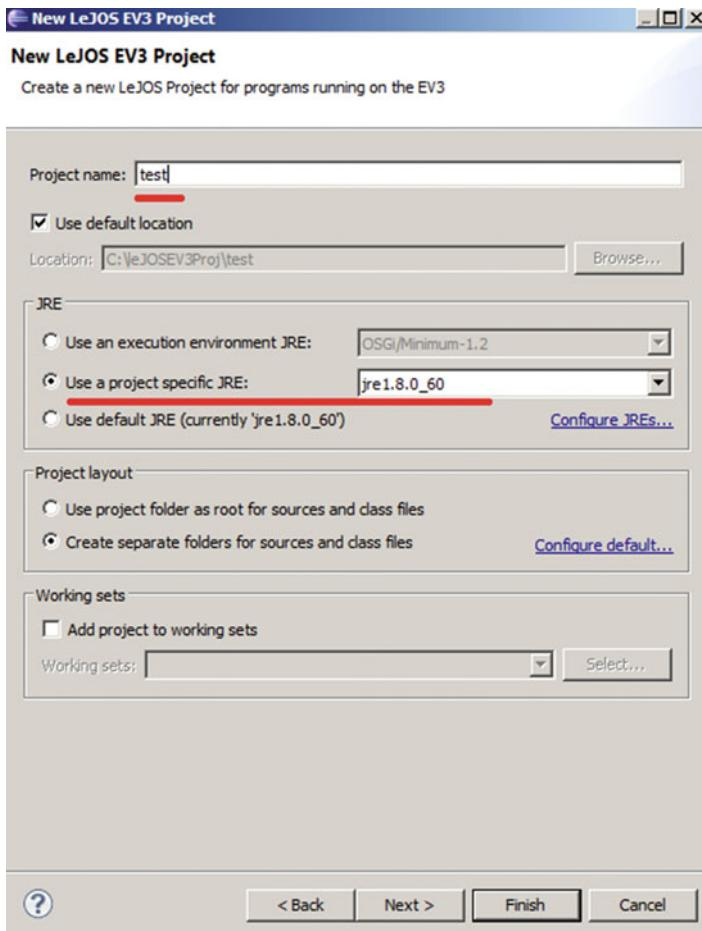

Figure 1-25. Create a new leJOS EV3 project
3. For the project name, enter test and then click Finish, as shown in Figure 1-25.